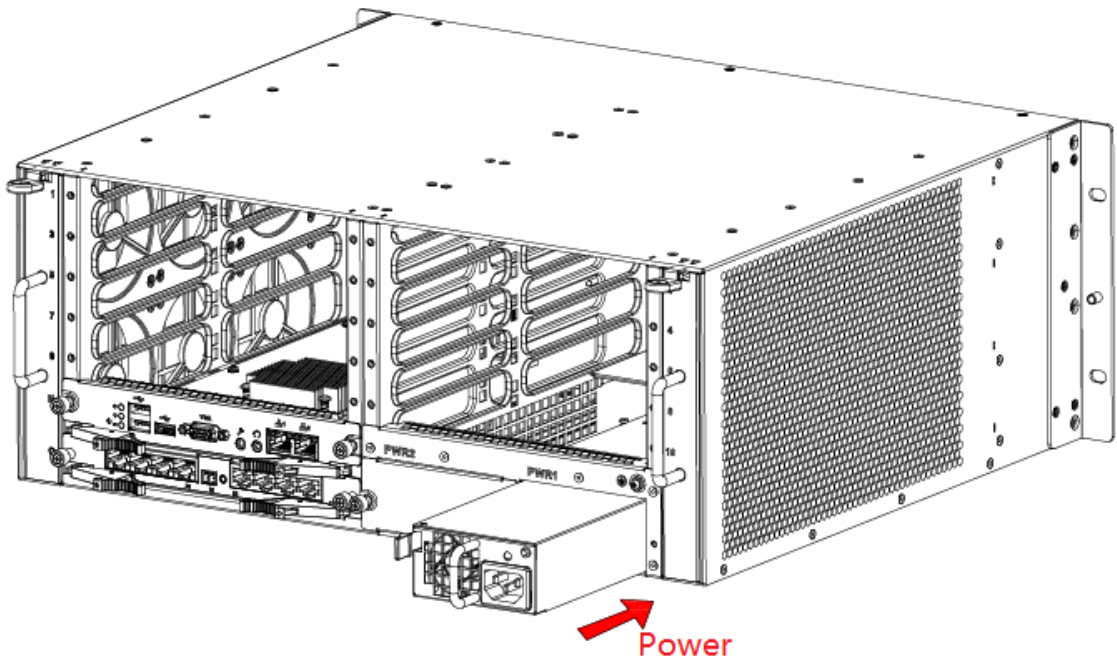

Figure 2-4
Step 5 Insert power supply and fix it, as shown in Figure 2-4.